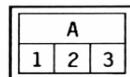

Fig 21-2
3. Inspection at compressor controller terminal (see Fig 21-2, Table 21-8)